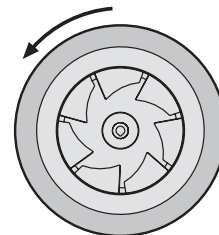

Figure 2
3. Start the fan and shut it off immediately to check rotation of the wheel, see Figure 2.
Wheel Rotation - Direction of wheel rotation is critical. Reversed rotation will result in poor air performance, motor overloading and possible burnout. Rotation should be counterclockwise when viewed from the fan inlet as shown in Figure 2. If wheel rotation is incorrect, switch two of the wiring leads for 3 phase power supply or check motor wiring for single phase power supply. Fan rpm should be checked and verified with a tachometer.